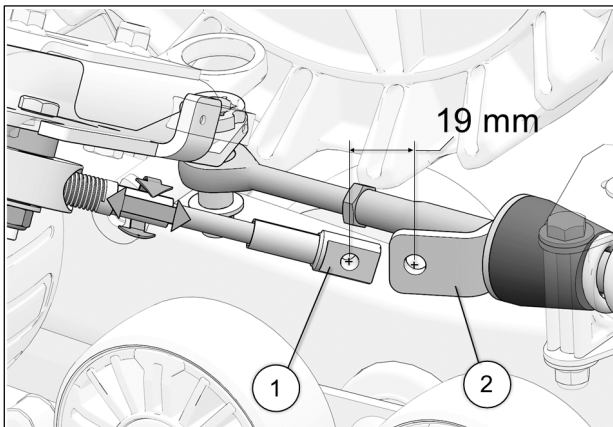

Fig. 25
16. Turn the vehicle's steering wheel to its maximum point of travel on the left. While maintaining pressure on the steering wheel, turn threaded rod to adjust length of cable. See Fig. 25
17. Position cable end hole (1) 19 mm [ $\frac{3}{4}$  in.] short of support plate (2) mounting hole. See Fig. 25